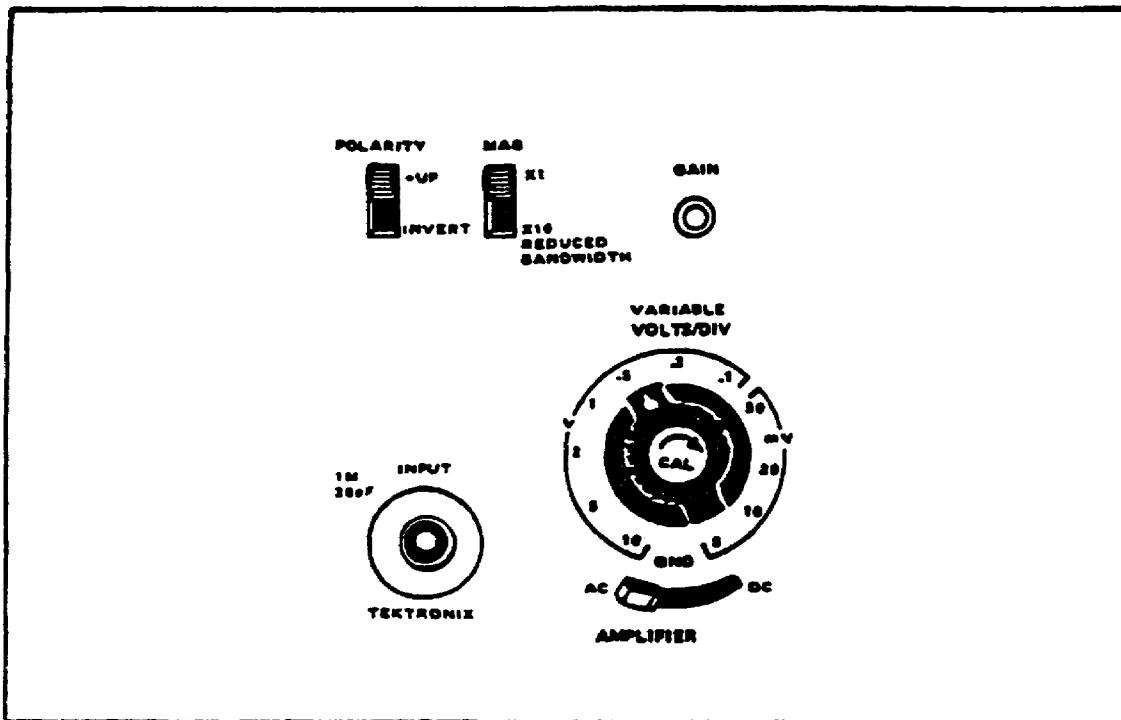

FIGURE 8. VOLTS/DIV SWITCH.
Step 4. Place the input coupling AC/GND/DC to the AC position. Turn the VOLTS/DIV switch (figure 8, on the next page) to the .5 position. Turn the red VARIABLE (CAL) switch fully clockwise until it clicks. This mean that each vertical square on the screen is equal to .5 volts of input signal.